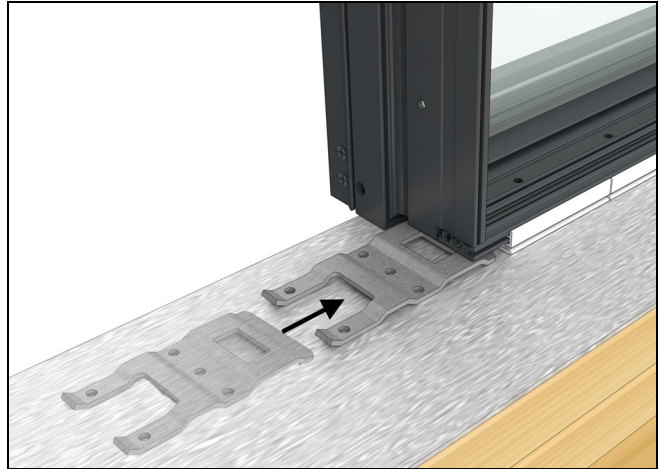

Figure 42
11. Temporarily position the mull bracket on the sill. You will need shim to get the bracket to the correct height if the unit does not sit flat on the sill plate. The bracket should sit flush with the bottom of the frame/shim block. See Figure 42.